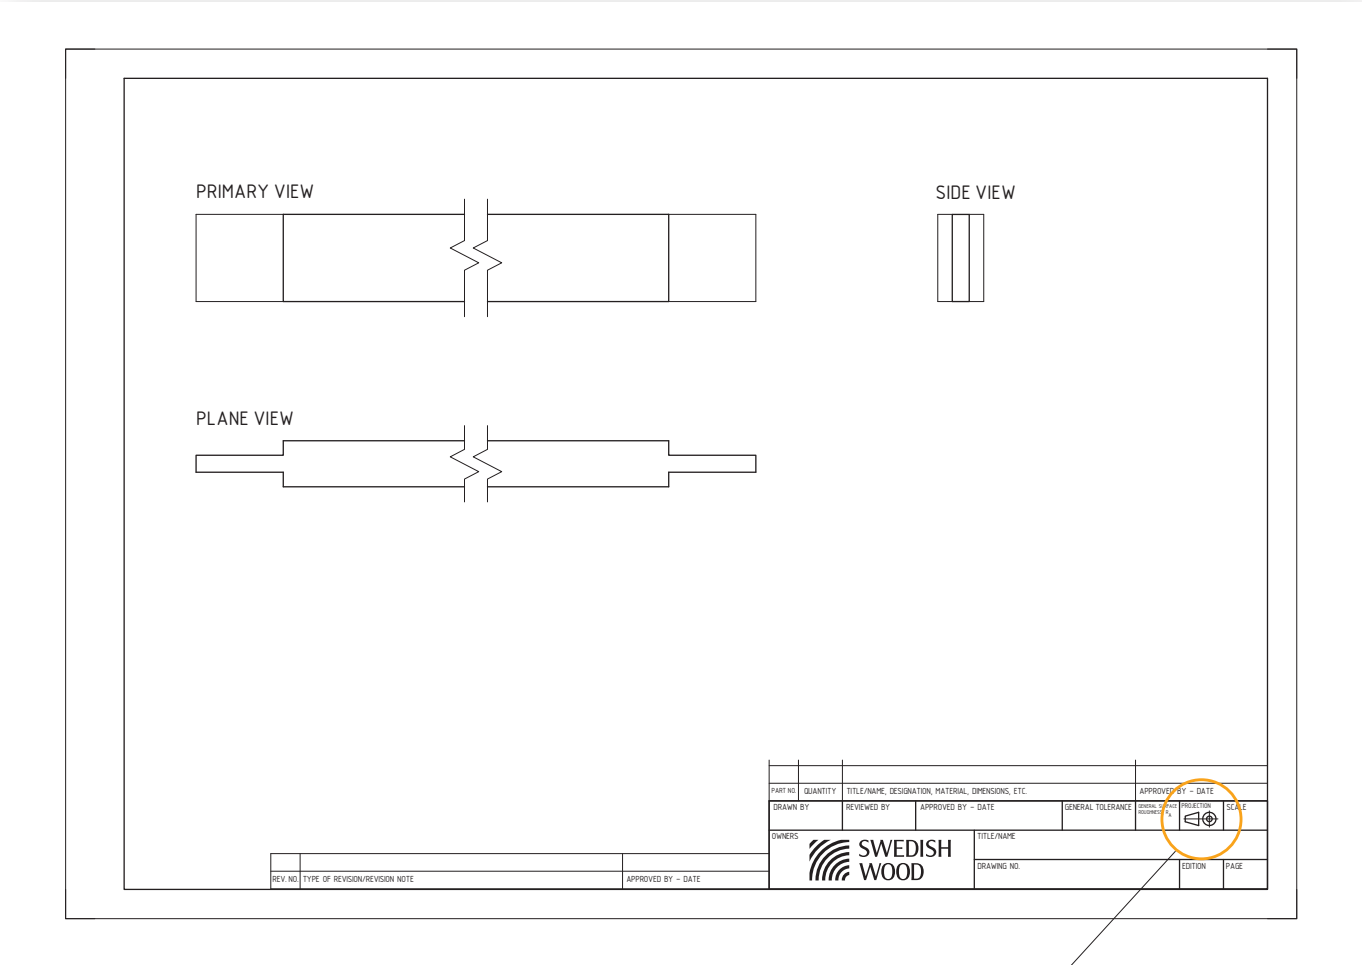
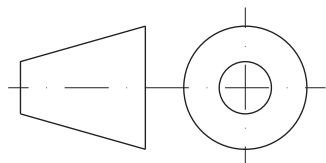

Figure 2.5 Drawing using the European projection method. The symbol, see figure 2.6, is placed in the title block.
Figure 2.6 Symbol for European projection.
The European projection method (method E) is also called “the first angle projection” or “the tipping method”, as the figures are tipped over on their side. To achieve different views, an object can be tipped into different positions, see fig. 2.5. You begin by drawing the primary view (A), which is the “view from the front”. The primary view must be the side of the object that is usually considered the front or the side that best describes the appearance. The primary description does not provide sufficient description of the object. To make the drawing clear and usable, the view must be drawn from at least two sides. In addition to the primary view, there are further views to choose from when creating a full picture of the detail. The symbol for the European projection can be seen in fig. 2.6 and it is placed in the main field on the technical drawing template. There are other types of projection and these are shown using other symbols in the same field.